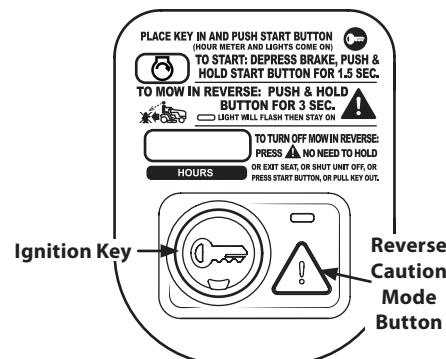

Figure 3-2
- Press the REVERSE CAUTION MODE ⚡ button and hold for 3 seconds. The indicator light will flash for 3 seconds and will stay on when the REVERSE CAUTION MODE ⚡ is activated. See Figure 3-2.
- The indicator light above the REVERSE CAUTION MODE ⚡ button will be ON while activated. See Figure 3-2.